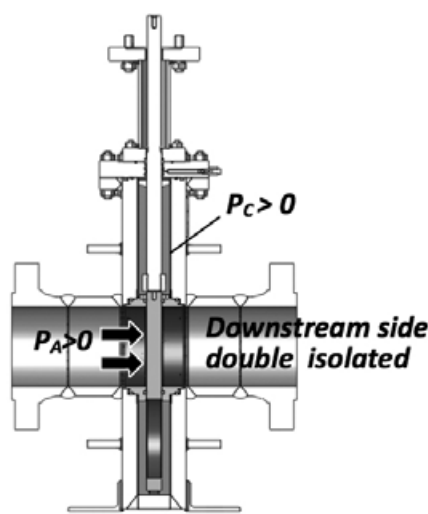

Figure 6: DIB — Down-stream seat provides isolation against cavity pressure
- Double isolation and bleed (DIB) types A and B (API 6D) [Figure 6]:**